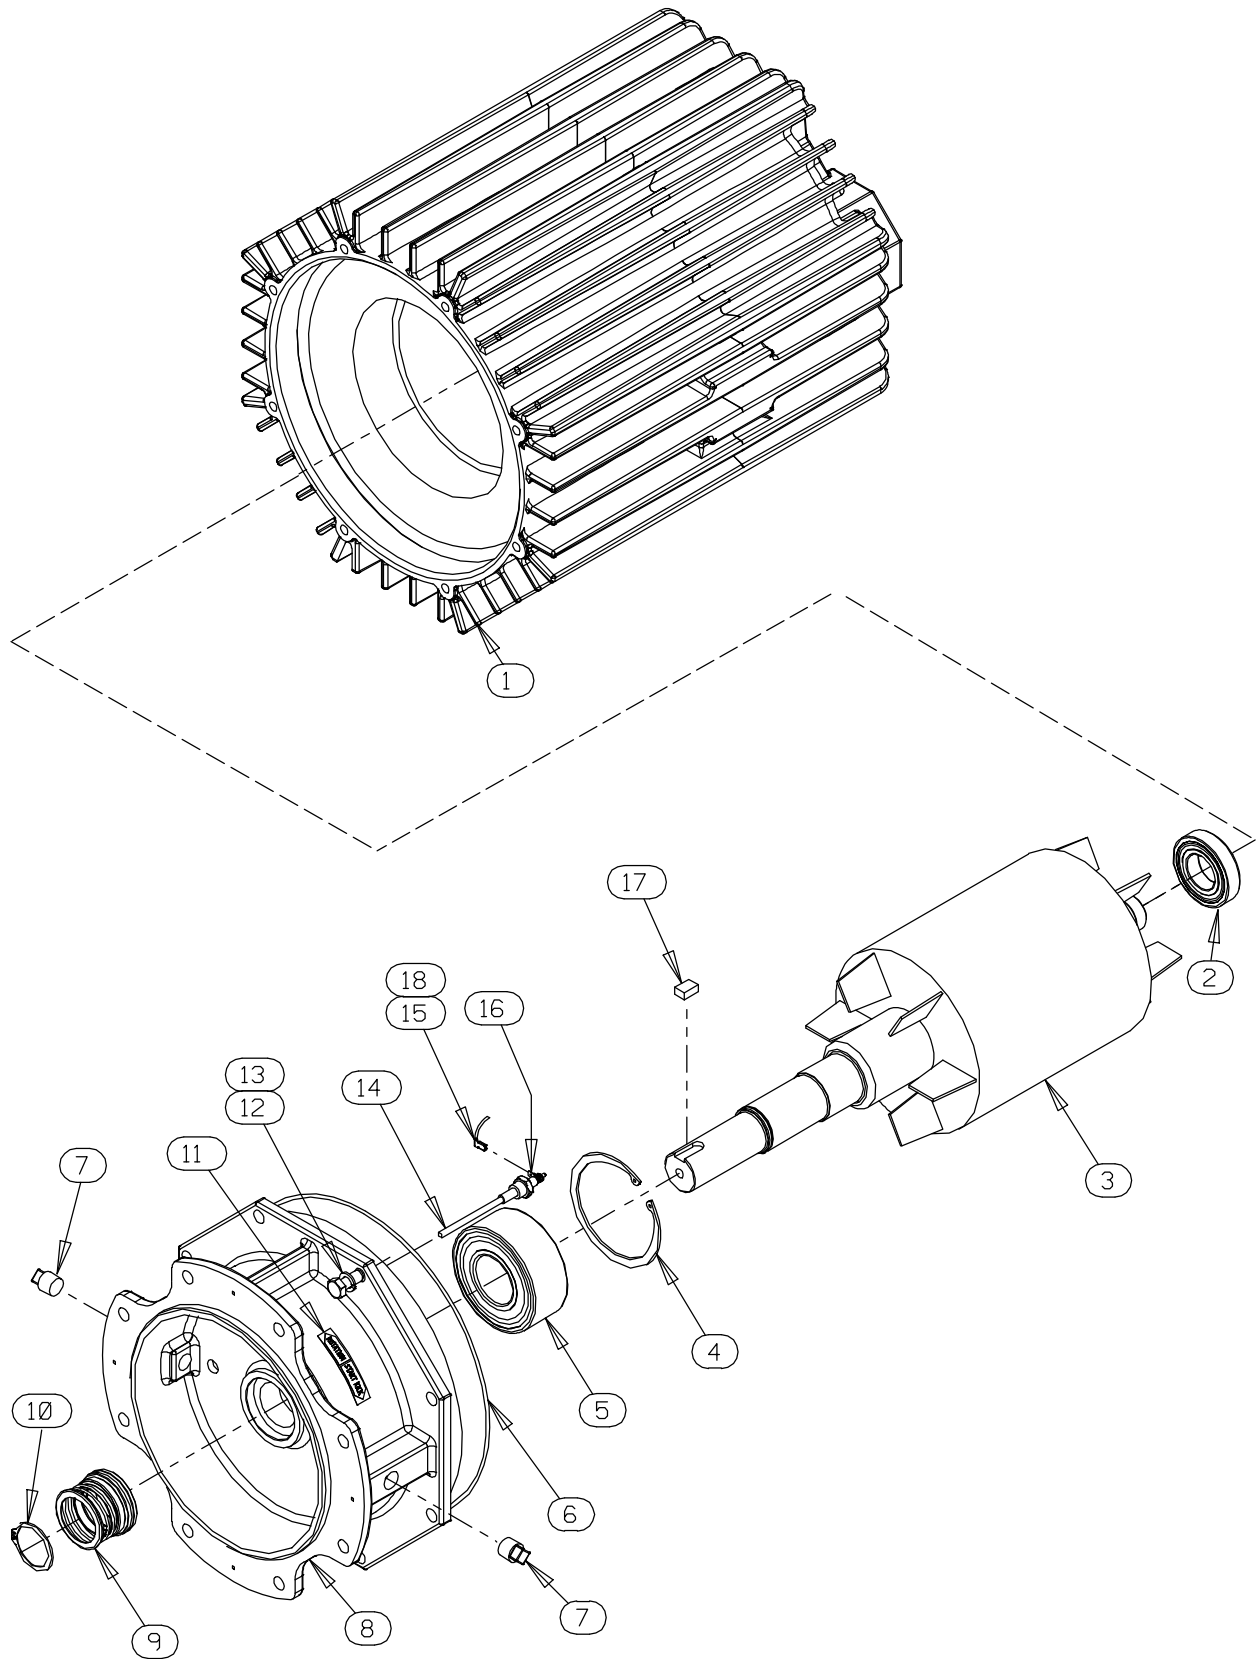

Figure E-2. Motor Assemblies
(Figure E-2)
To remove the impeller, use two thin-bladed screwdrivers positioned 180° apart to pry on the back of the impeller and “walk” the impeller off the shaft. Use increasingly larger screwdrivers (or wedges) as necessary. After the impeller comes free of the shaft, retain the impeller key (17, Figure E-2).
An alternate method of removing the stationary element is to remove the screws (24) securing the seal plate (22) to the motor assembly (11). Pry the assembled seal plate and stationary element off the shoulder of the intermediate (8, Figure E-2). Remove the O-ring (10) and press the stationary element and seat out of the seal plate from the back side.
(Figures E-2 and E-3)